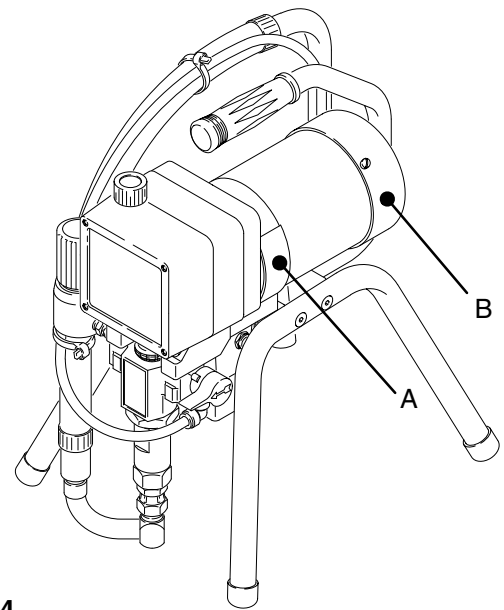

Fig. 14
1. Remove the fan cover (B). See Fig. 14.
2. When turning the fan on a DC motor, normally you sense an even, pulsing resistance. If there is irregular turning resistance, or no turning resistance, remove the motor brush inspection covers (A). See Fig. 14. Check and repair the following as needed: broken brush springs, brush leads, motor leads; loose brush terminal screws, motor lead terminals; worn brushes. See page 20.